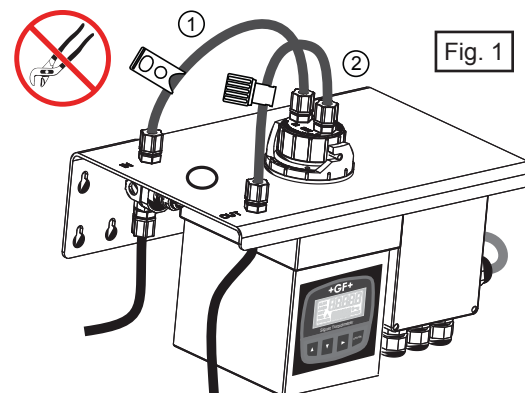

Fig. 1
1. Locate Tubing Kit 4150-0005 and install the tube kit with the shutoff clamp (labeled "IN") to the nipple assembly marked "IN" on the Turbidimeter and to the measuring cell nipple marked "IN". See Fig. 1.
2. Install the tube kit with the small back pressure valve to the nipple assembly marked "OUT" on the top right front corner of the turbidimeter and to the measuring cell nipple marked "OUT". See Fig. 1. **NOTE:** Hand tighten only. Do not use any tools.